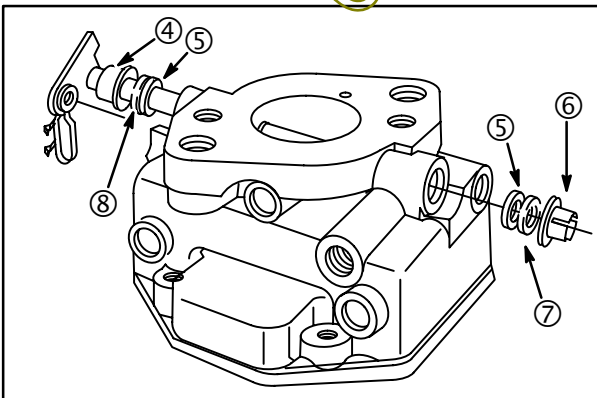

Fig. 107
3. Install new throttle shaft seals (5) with sealing lip out, **Fig. 107.**
4. Install throttle shaft with spacer (4) and foam seal (8).
5. Install foam seal (7) and retainer (6).